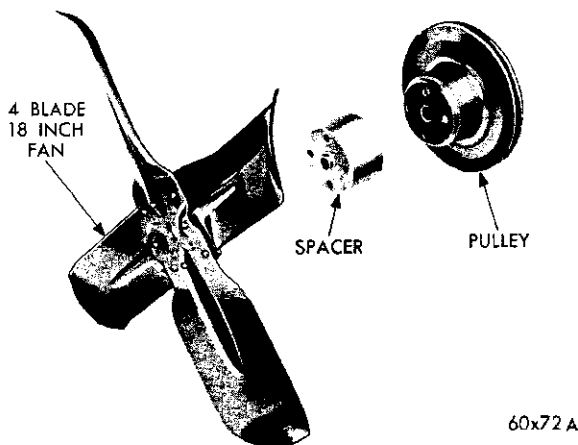
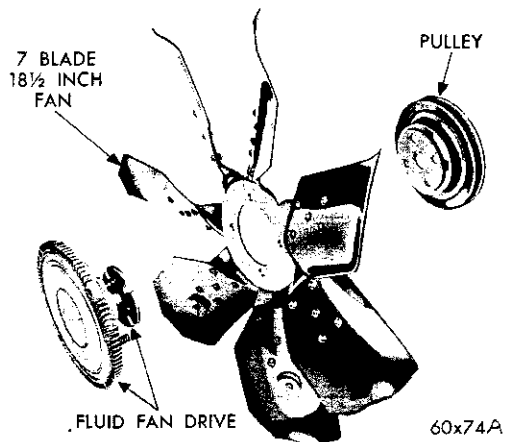

Fig. 1—Standard Fan Drive
Fig. 2—Silent Flite Fan Drive
Models with standard equipment have a 4 blade, 18 inch fan, as shown in Figure 1. Models equipped with air conditioning have 7 blade, 18½ inch fan, on the TY1 and an 18 inch fan on the TC1, TC2 and TC3 as shown in Figure 2. All C-300J models have a 7 blade 18 inch diameter fan.
The spacer (Fig. 1) used on TC-1, TC-2 and TC-3 models is 1.40 inch thick and on TY-1 models it is 1.60 inch thick.
1. SILENT FLITE FAN DRIVE (Fig. 2) (With Air Conditioning)